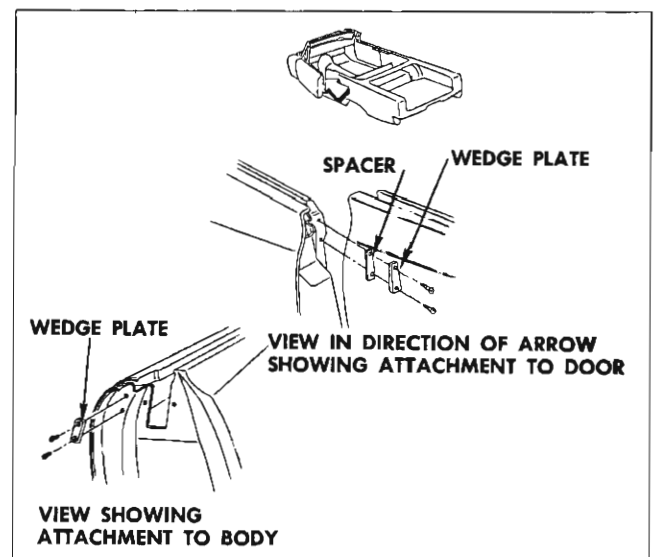

Fig. 12-19 Wedge Plate Installation
1. As an anti-squeak precaution and to prevent entry of water into door at hinge attaching bolt locations, coat attaching surfaces of hinges with heavy bodied sealer prior to installing door (Fig. 12-19
1. Remove two screws securing wedge plate to panel and remove wedge plate (Fig. 12-19).